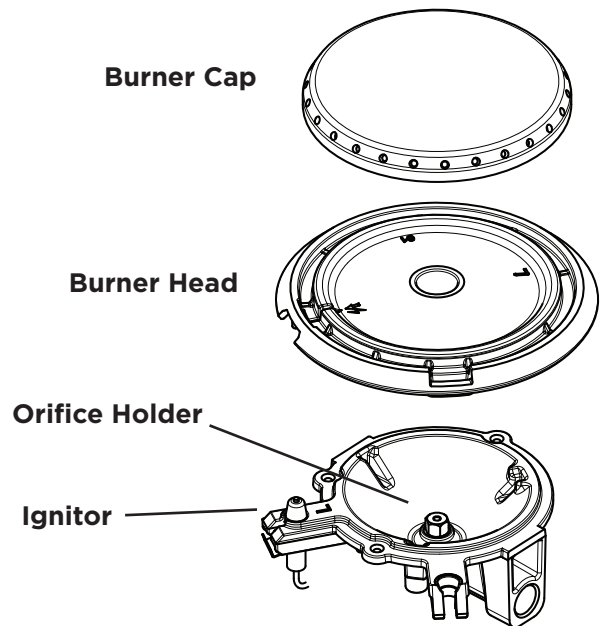

Figure 14: Burner cap, burner head, ignitor, and orifice
1. Remove the burner cap and the burner head (see Figure 14). Clean with hot soapy water and dry thoroughly